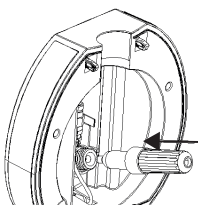

Fig. 7
2. Insert an unused 16 gramme CO₂ pressure cartridge (Fig. 7).